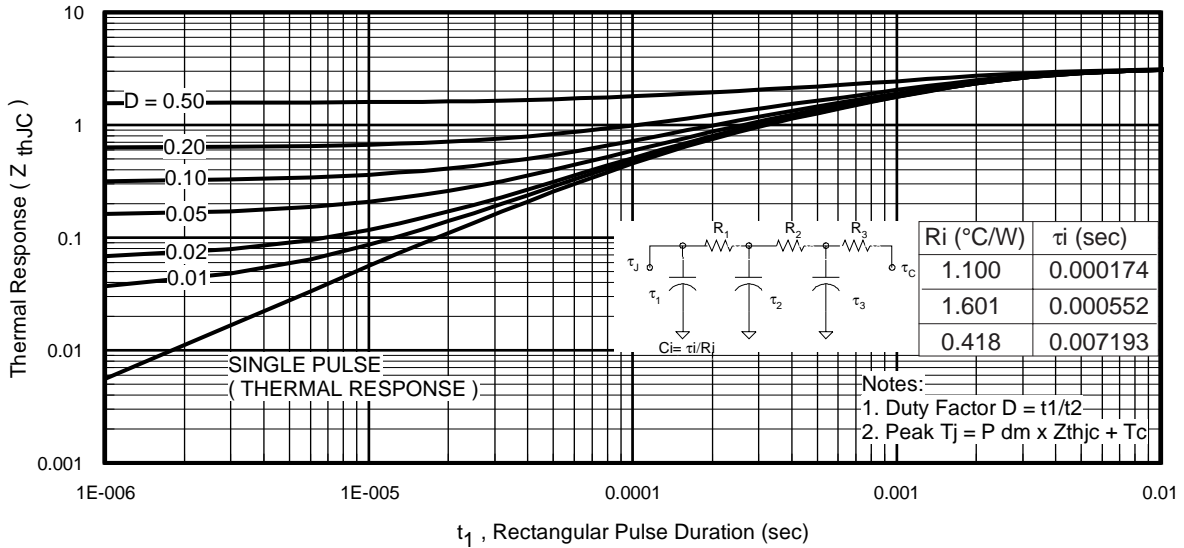
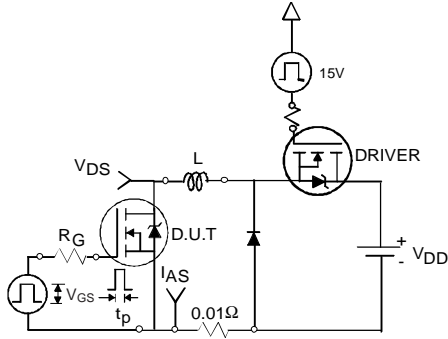

Fig 11. Maximum Effective Transient Thermal Impedance, Junction-to-Case
Fig 12a. Unclamped Inductive Test Circuit
3. Equation below based on circuit and waveforms shown in Figures 12a, 12b.
$Z_{thJC}(D, t_{av})$ = Transient thermal resistance, see figure 11)
- ① Repetitive rating; pulse width limited by max. junction temperature. (See fig. 11).
- ② Limited by T_{Jmax} , starting $T_J = 25^\circ\text{C}$, $L = 0.18\text{mH}$, $R_G = 25\Omega$, $I_{AS} = 18\text{A}$, $V_{GS} = 10\text{V}$. Part not recommended for use above this value.
- ③ Pulse width $\leq 1.0\text{ms}$; duty cycle $\leq 2\%$.
- ④ C_{OSS} eff. is a fixed capacitance that gives the same charging time as C_{OSS} while V_{DS} is rising from 0 to 80% V_{DSS} .
- ⑤ Limited by T_{Jmax} , see Fig.12a, 12b, 15, 16 for typical repetitive avalanche performance.
- ⑥ This value determined from sample failure population. 100% tested to this value in production.
- ⑦ When mounted on 1" square PCB (FR-4 or G-10 Material). For recommended footprint and soldering techniques refer to application note #AN-994